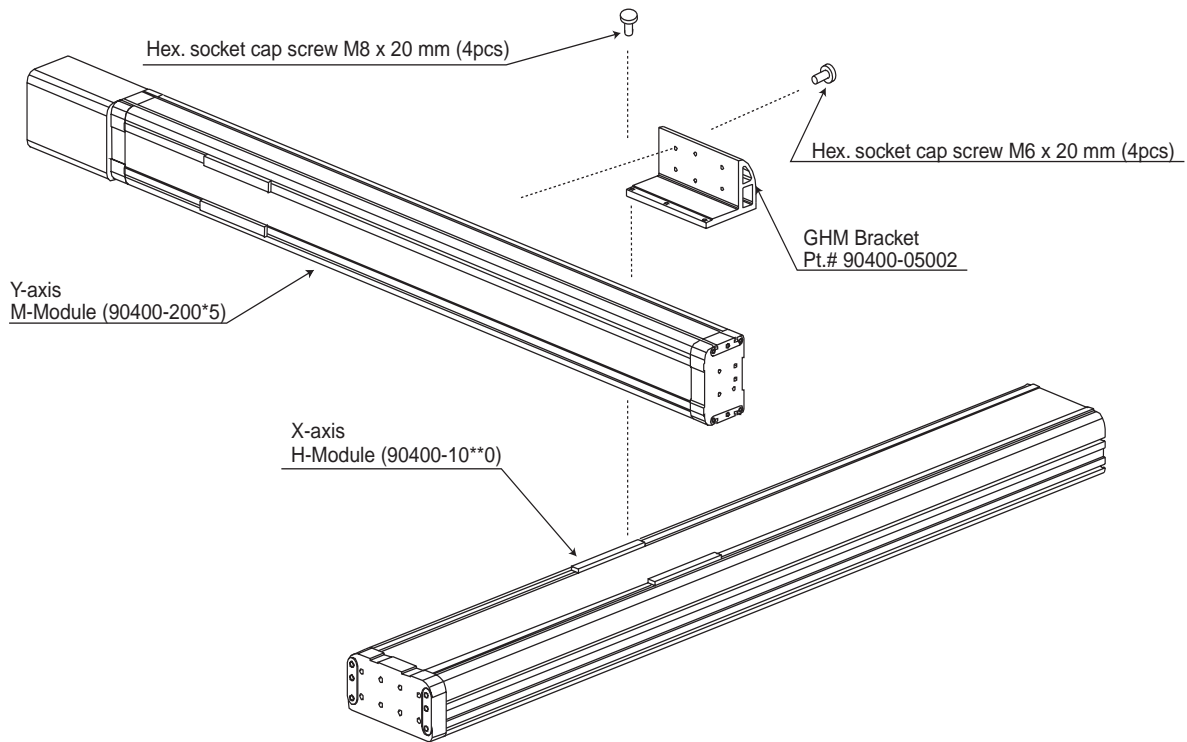

Figure 4-4. G-1 Type Mechanical Assembly
4. Mate the Y-axis to combining bracket by aligning the motor-side pin holes on the Y-axis module to the pins on the side of the bracket (these holes are on the side opposite the sliders). Carefully mate the pins and pin holes to avoid damaging the pins. Install the mounting bolts (see Figure 4-4, and refer to Table 3-3 for the mounting bolt specifications).